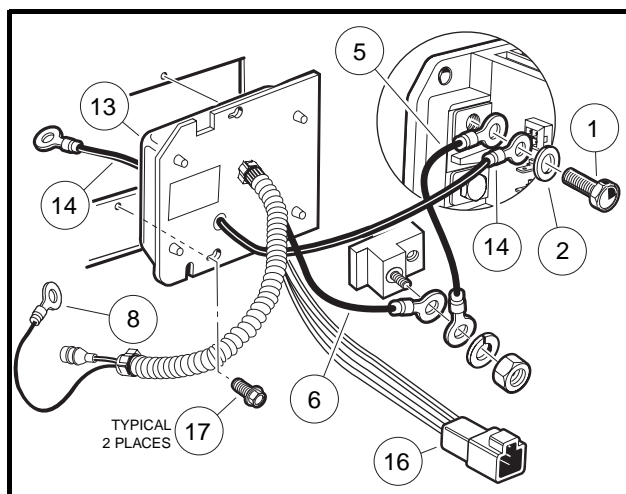

Figure 13-6 Onboard Computer
2. Remove rear body access panel and unplug the six-pin connector (16) at the OBC (**Figure 13-6, Page 13-8**).
4. Remove the wire tie (3) securing the speed controller wires to the mounting plate.
5. Remove black 6-gauge wire (14) and black 10-gauge wire (5) from the speed controller B- terminal (**Figure 13-6, Page 13-8**).
6. Remove the black 10-gauge wire (6) from the accessory mounting terminal.
8. Disconnect the black 10-gauge wire (8) at the charger receptacle.
10. Loosen, but do not remove, the two self-tapping screws (17) holding OBC to component mounting plate.
11. Slide OBC towards outside of vehicle and align heads of self-tapping screws (17) with the two holes in the OBC face plate. Pull OBC towards rear of vehicle and remove from component mounting plate.
3. Install the OBC onto the component mounting plate by aligning the two holes on the OBC face plate with two holes on component mounting plate. Slide OBC towards inside of vehicle and align heads of self-tapping screws (17) with smaller part of two holes in OBC face plate (**Figure 13-6, Page 13-8**). Tighten screws to 60 in-lb (6.7 N-m). **See following NOTE.**
5. Connect the black 10-gauge wire (8) to the charger receptacle (**Figure 13-6, Page 13-8**). Tighten to 23 in-lb (2.6 N-m).
7. Connect the black 10-gauge wire (6) to the accessory mounting terminal. Install the nut on the accessory terminal and tighten to 9 ft-lb (12.2 N-m).
8. Connect the black 6-gauge wire (14) and black 10-gauge wire (5) to the speed controller B- terminal with the washer (2) and bolt (1) and tighten to 9 ft-lb (12.2 N-m) (**Figure 13-6, Page 13-8**).
9. Plug the six-pin connector (16) from the OBC into the vehicle wire harness.